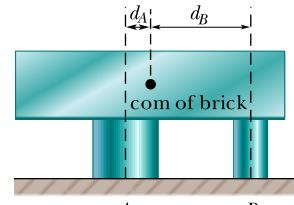

Figure 12.42 Problem 45.
**45 M** In Fig. 12.42, a lead brick rests horizontally on cylinders *A* and *B*. The areas of the top faces of the cylinders are related by  $A_A = 2A_B$ ; the Young's moduli of the cylinders are related by  $E_A = 2E_B$ . The cylinders had identical lengths before the brick was placed on them. What fraction of the brick's mass is supported (a) by cylinder *A* and (b) by cylinder *B*? The horizontal distances between the center of mass of the brick and the center-lines of the cylinders are  $d_A$  for cylinder *A* and  $d_B$  for cylinder *B*. (c) What is the ratio  $d_A/d_B$ ?